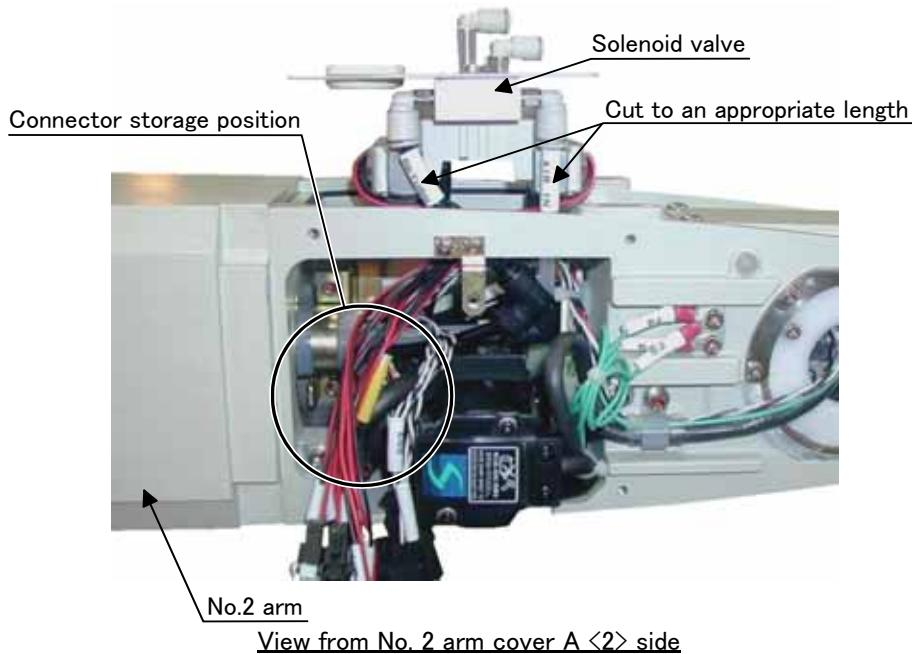

Fig.3-2 : Solenoid valve installation diagram details 1
Fig. 3-1 and **Fig. 3-2** shows the solenoid valve installation procedures and the solenoid valve connector connection procedures. The installation procedures are as follow. This work must be carried out with the controller power turned OFF.
- 3) Connect the connectors of "GR1" and "GR2" stored in section A to the connectors of "GR1" and "GR2" coming out of the solenoid valves. Store the connectors near the location marked with O shown in Fig. 3-2.